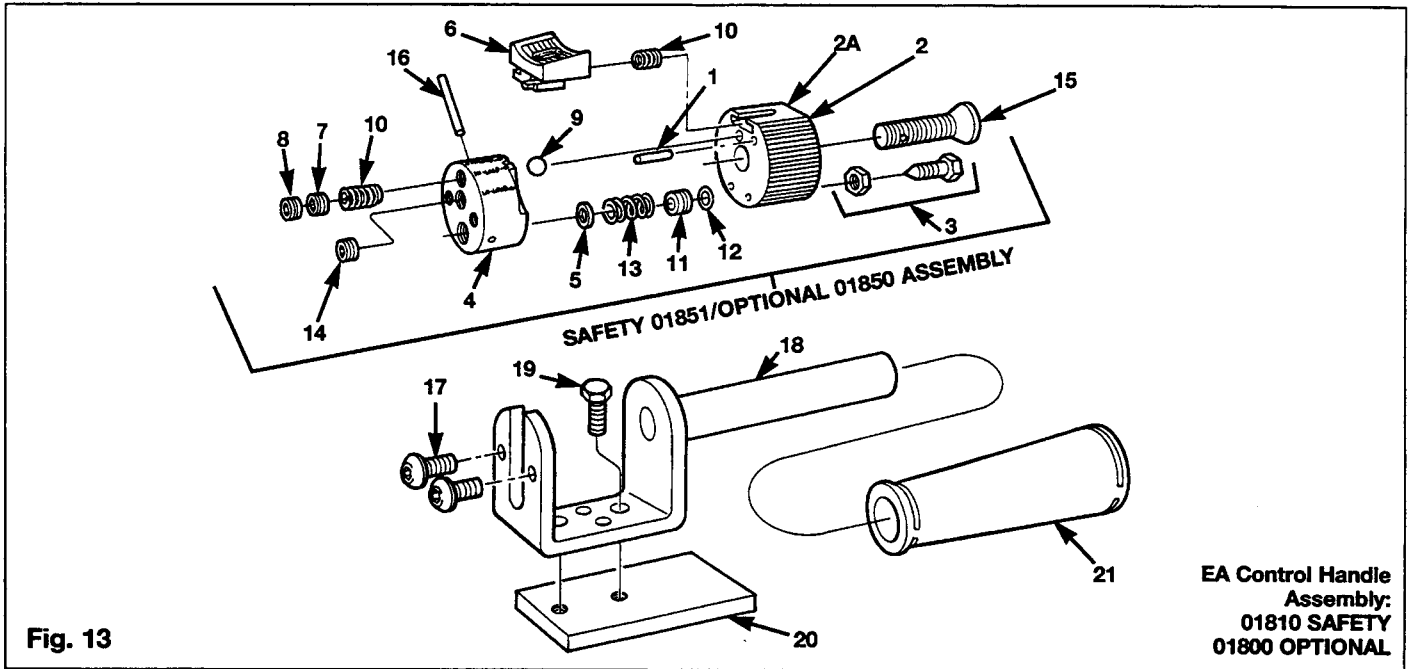

Fig. 13
4. Turn both needle valves, located in the control handle, clockwise until fully closed. (Refer to Fig 13, item 3).
Disassembly Refer to Fig. 13.